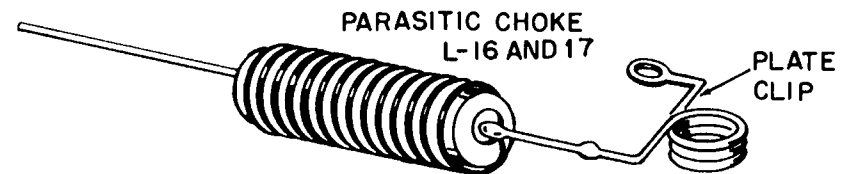

FIGURE 25. CHOKE PREPARATION
- ✓ ☒ L-16, parasitic choke (coil wound on a 2 watt resistor). Cut one lead so it is 1/2" long. Solder this lead to a plate clip as shown in Figure 25. Cut the other lead so it is 1" long. Connect this lead to the terminal of L-18. The plate clip will be connected later.